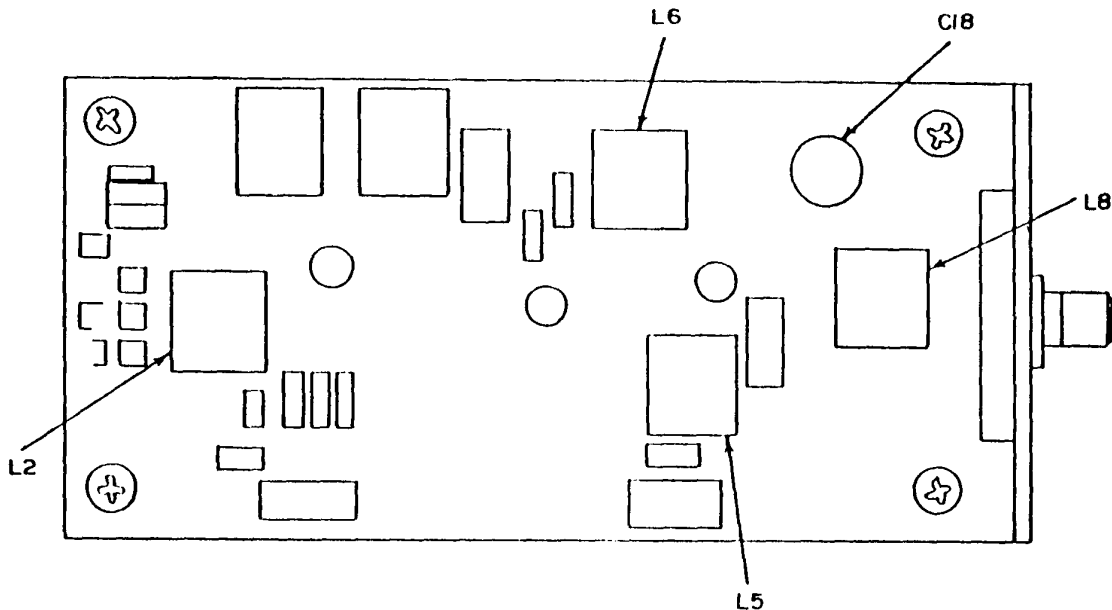

Figure 4. Adjustment locations – A1 through A5 boards.
(1) Adjust A5L2 (fig. 4) for frequency counter indication of 108.0000 MHz (R).
(2) Adjust A5L2 (fig. 4) for frequency counter indication of 108.0500 MHz. Repeat **a(2)** and (3) above for best compromise (R).
(3) Adjust A4L2 (fig. 4) for frequency counter indication of 108.1000 MHz (R).
(4) Adjust A4L2 (fig. 4) for frequency counter indication of 108.1500 MHz. Repeat **a(5)** and (6) above for best compromise (R).
(5) Adjust A3L2 (fig. 4) for frequency counter indication of 334.70000 MHz (R).
(6) Adjust A3L2 (fig. 4) for frequency counter indication of 334.55000 (334.1000) MHz. Repeat **a**(8) and (9) above for best compromise (R).
(7) Adjust A1L2 (fig. 4) for frequency counter indication of 75.00000 MHz (R).
(1) Adjust A1C18 (fig. 4) for indication greater than -20 dBm. If indication is less than -20 dBm, adjust A1C18 for maximum indication and then adjust A1L8 (fig. 4) for indication greater than -20 dBm (R).
(2) Adjust A5C18 (fig. 4) for indication greater than -10 dBm. If indication is less than -10 dBm, adjust A5C18 for maximum indication and then adjust A5L8 (fig. 4) for indication greater than -10 dBm (R).
(3) Adjust A4C18 (fig. 4) for indication greater than -10 dBm. If indication is less than -10 dBm, adjust A4C18 for maximum indication and then adjust A4L8 (fig. 4) for indication greater than -10 dBm (R).
(4) Adjust A3C18 (fig. 4) for indication greater than -20 dBm. If indication is less than -20 dBm, adjust A3C18 for maximum indication and then adjust A3L8 (fig. 4) for indication greater than -20 dBm (R).
(4) Disconnect equipment setup and reconnect audio analyzer to measuring receiver modulation output. Measure distortion. If distortion is still high, adjust A5L5 and A5L6 (fig. 4) for minimum distortion (R).
If A5L5 and A5L6 (fig. 4) were adjusted, recheck paragraph **15a(4)** above VOR RF level.